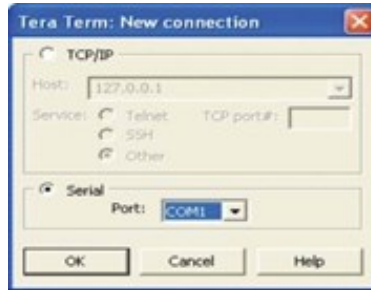

Figure 4-4: Serial Radio Button
1. Select the **Serial** radio button and click **OK**, Figure 4-4.